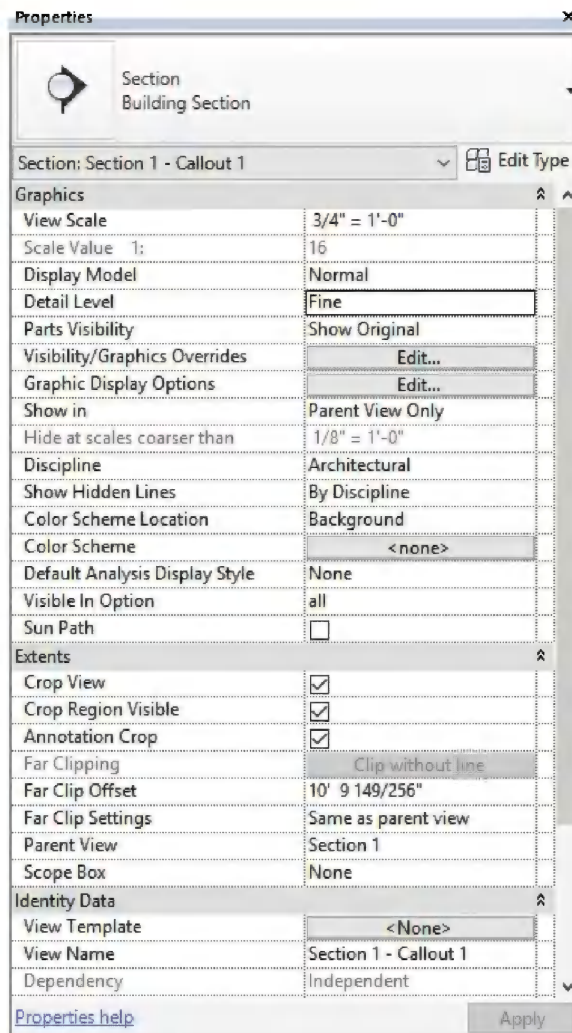

FIGURE 10-3.3 View properties
7. In the View properties, set the *View Scale* to  $\frac{3}{4}" = 1'-0"$  and the *Detail Level* to **Fine** (Figure 10-3.3).